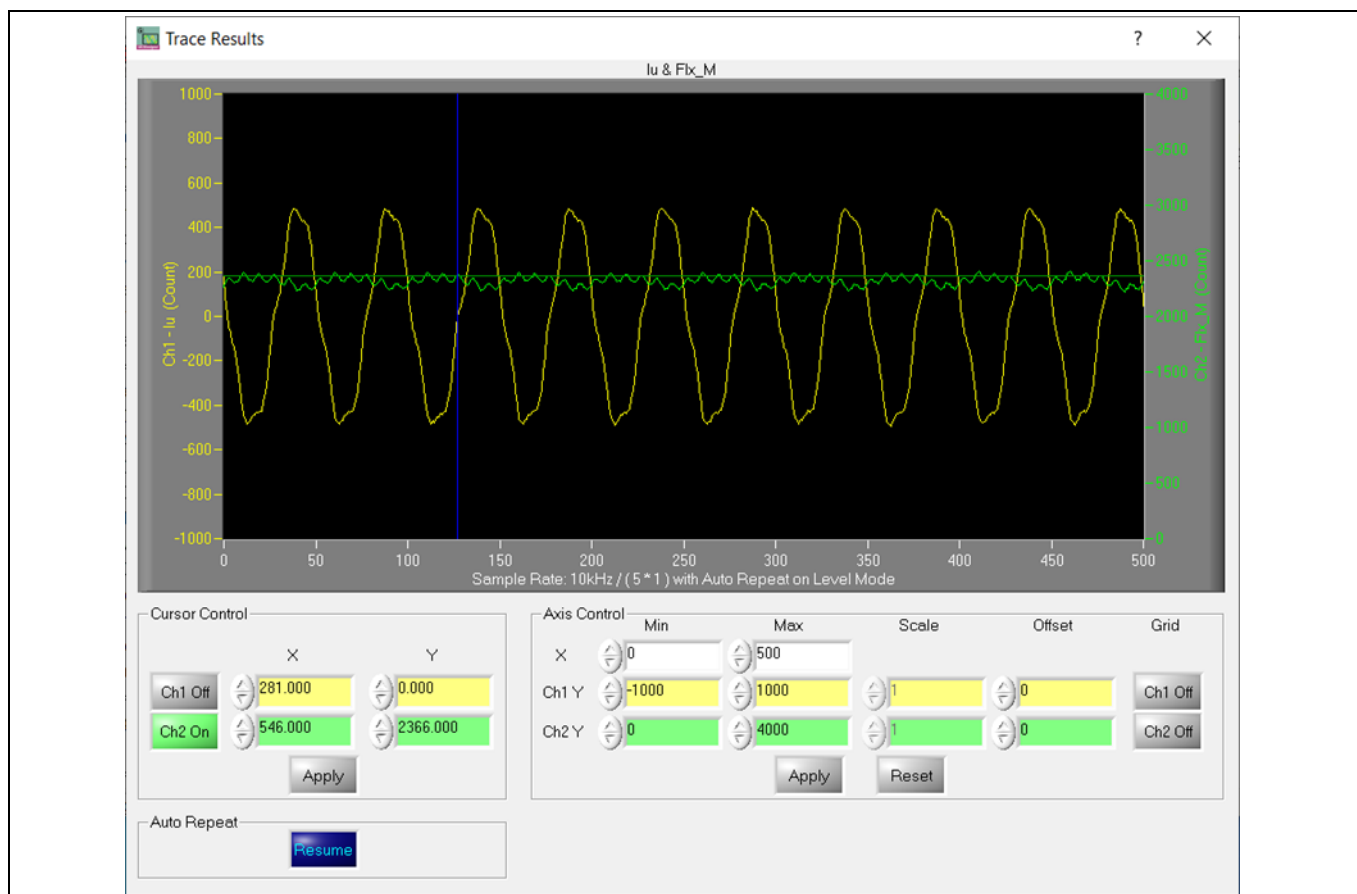

Figure 10 Trace waveform for I_u & $Flx-M$ at 50% speed
15. Set the target speed to about 50% of the maximum speed and start the I_u & Flx_M trace with Auto Repeat on Level Mode (see Figure 10.) Flx_M is better within the range of 2000 to 2500 (rated value is 2048), and must be steady and DC-like.